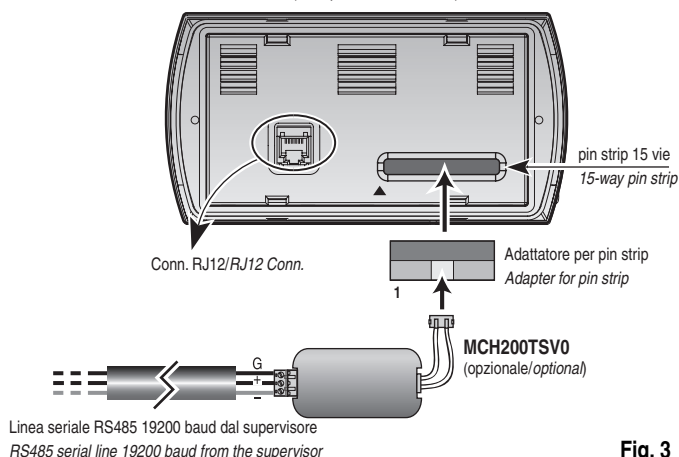

Fig. 3
- open the cover on the 15-way pin strip using a pair of wire cutters (Fig. 3);